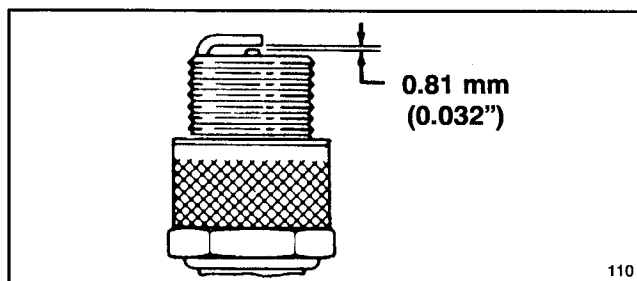

Figure 19
3. Set air gap at 0.81 mm (0.032") (Fig. 19). Install correctly gapped spark plug and gasket seal. Tighten plug firmly to 13.6 N·m (10 ft–lb).